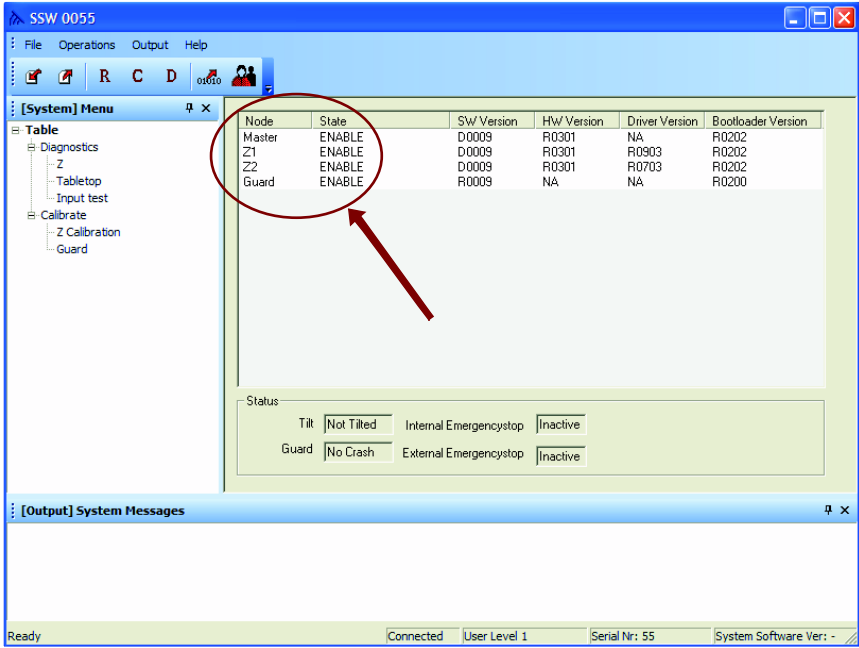

Fig. 4-156 SSW 0055
9. Verify that all nodes are in enable state, see **Fig. 4-156**.